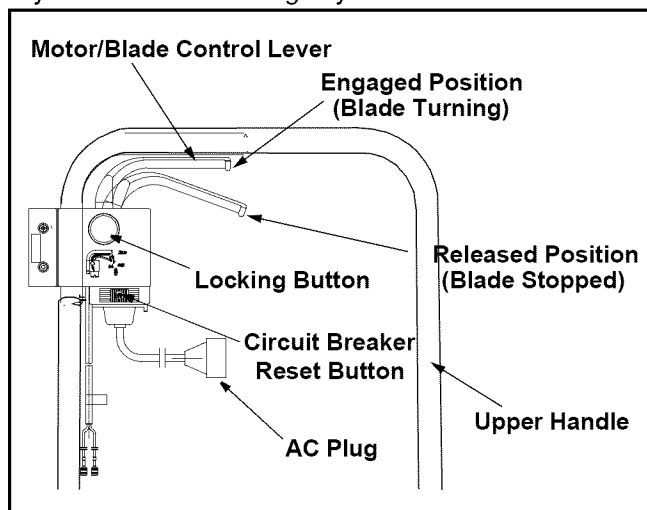

Figure 8
The mower is equipped with a circuit breaker, located on the motor/blade control. See Figure 8. This circuit breaker may trip when too much strain is placed on the mower. See the *Making Adjustments* section.
To engage the motor and blade, first be certain to follow the previous steps for connecting a suitable extension cord, then referring to Figure 8:
The mower is equipped with a circuit breaker, located on the motor/blade control assembly as shown in Figure 8. This circuit breaker may trip when too much strain is placed on the mower. The circuit breaker may have been tripped if the mower will not run.
- If this occurs, unplug the mower, wait approximately five minutes, then depress the reset button. Refer to Figure 8.